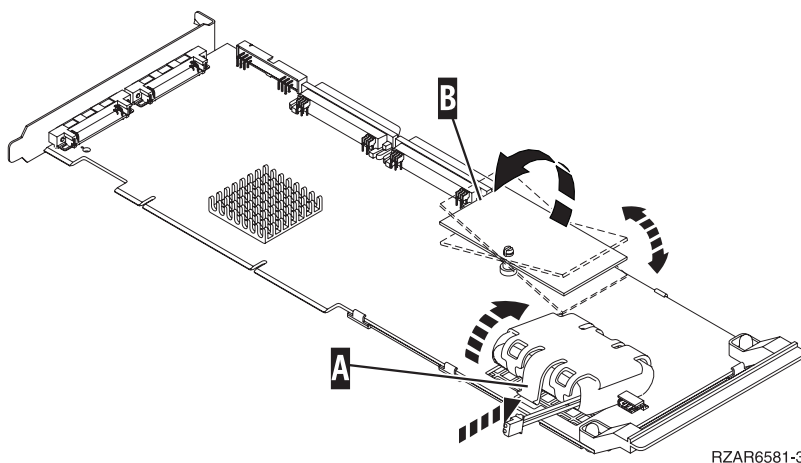
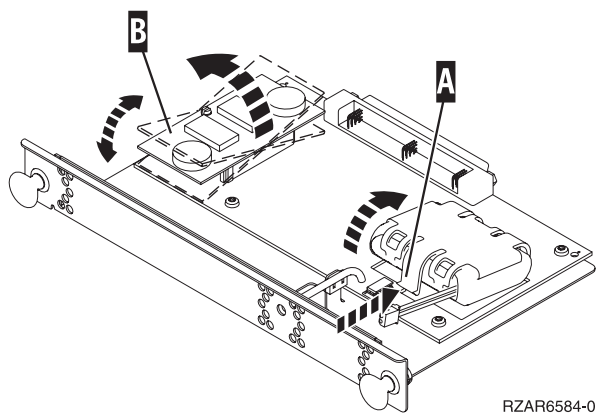
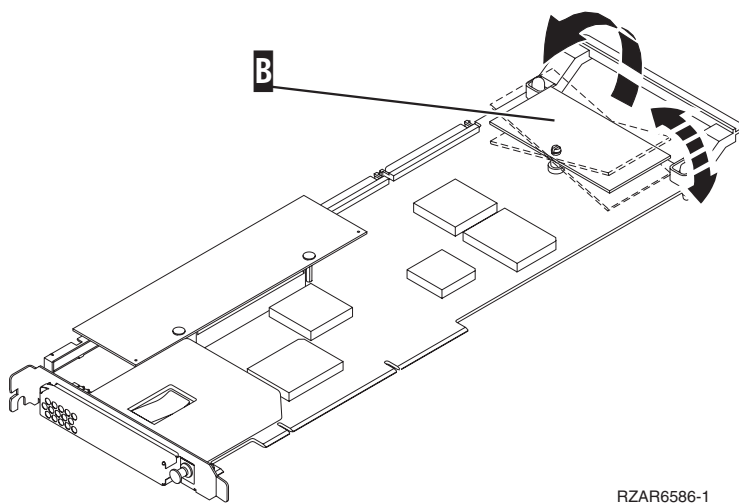
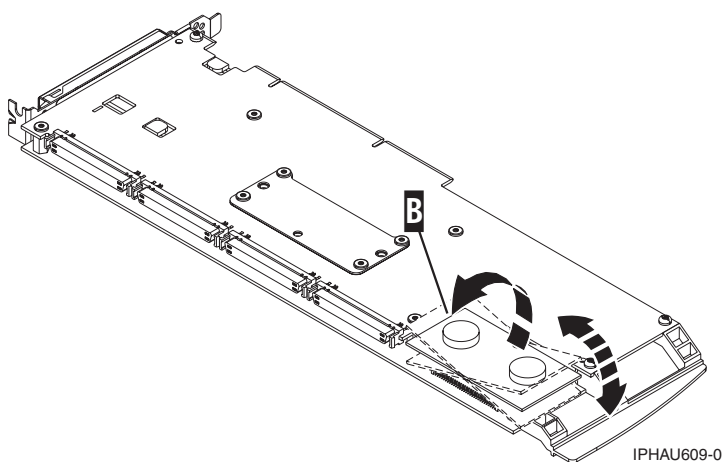

Figure 13. Cache battery pack and cache directory card for type 2782, 5703
Figure 14. Cache battery pack and cache directory card for type 5709
Figure 15. Cache battery pack and cache directory card for type 2780 (style A)
Figure 16. Cache battery pack and cache directory card for type 2780 (style B)
2. Locate the cache directory card **B**. It is a small rectangular card mounted on the I/O card (see Figure 13, Figure 14 on page 97, Figure 15 on page 97 or Figure 16 on page 97 below).